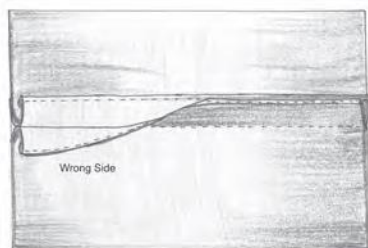

Fig. 3.23: Edge stitched finish
- Then turn under  $\frac{1}{4}$  inch on each seam edge. Stitch close to the fold without catching the garment (Fig. 3.23).